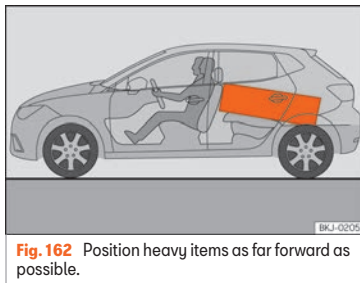

Fig. 162 Position heavy items as far forward as possible.
- Place heavy objects as far forward as possible in the luggage compartment »» **Fig. 162**.